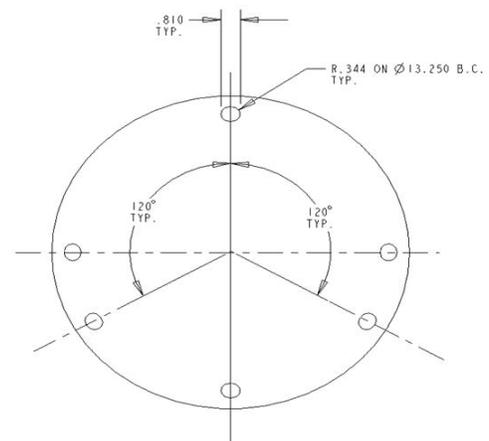

Figure 2 - Beacon Bottom View
2. The Beacon is mounted to the tower pedestal utilizing customer supplied 1/2" hardware. Six mounting holes are provided on the Beacon base (Figure 2). These mounting holes will align with most tower pedestals. The Beacon should be installed level to maintain light output in accordance with FAA requirements.